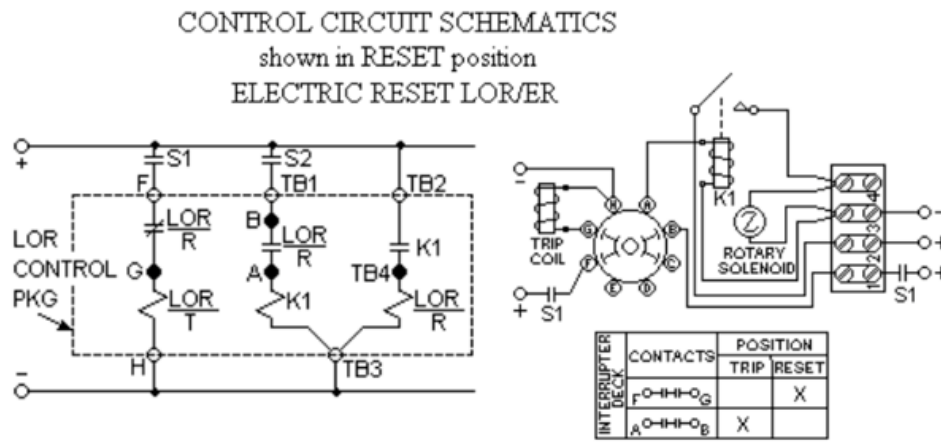

Fig. 29 Design guide for an LOR-ER (wiring diagrams - TRIP & RESET circuits).
2. The TIME DELAY SELF-RESET (shown in RESET position) version of the LOR/SR, illustrated in Fig. 29, operates in the same manner as the instantaneous reset version except the R3-C1-C2-C3-C4 circuit causes a time delay of from 300 to 600 milliseconds from the time S1 opens until the LOR/SR contacts reclose.